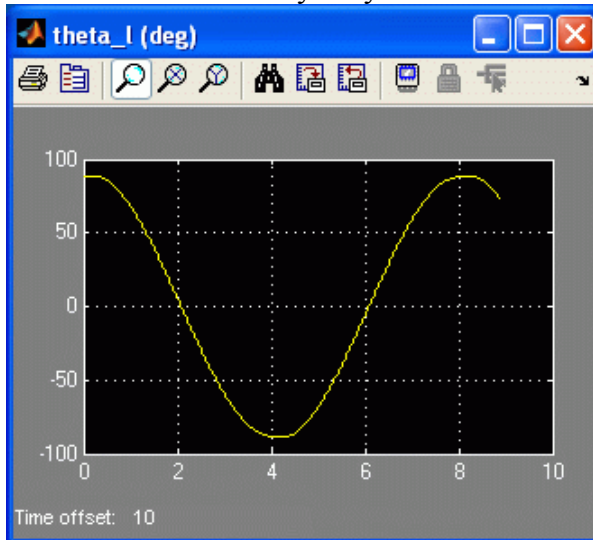
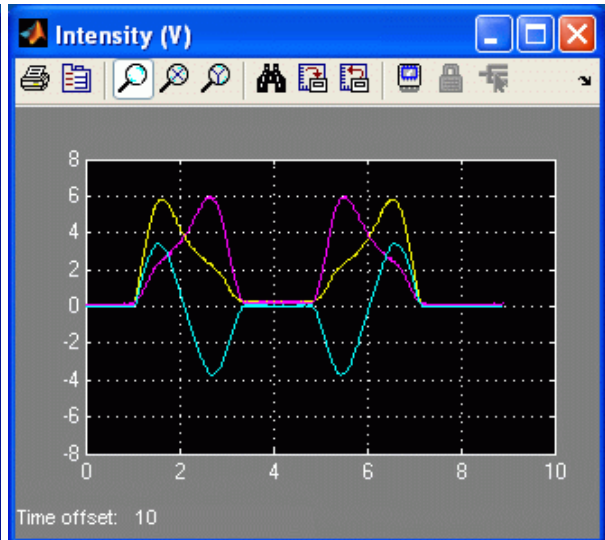

Figure 16: Servo angle response in calibration mode
Figure 17: Light intensity response in calibration mode
7. Select QUARC | Start to begin running the controller. The camera will move around to find the light source, align itself to the light, and then begin to swivel  $\pm 90$  deg. When it's in this *calibration mode*, the scopes should have a responses similarly as shown in Figure 16 and Figure 17. In the *Intensity (V)* scope, the right intensity is yellow, the left intensity is purple, and the differential intensity is cyan.